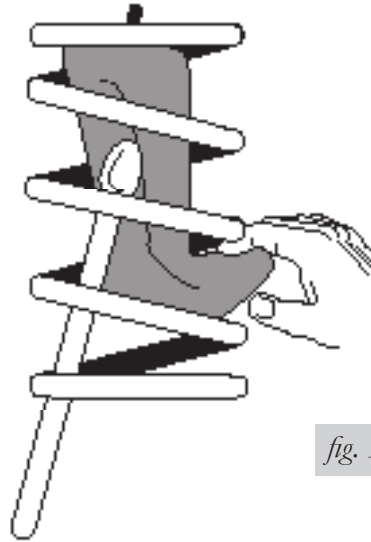

fig. 3
3. Insert the flattened air spring into the coil spring through the lowest opening with the stem at the top (fig. 3).